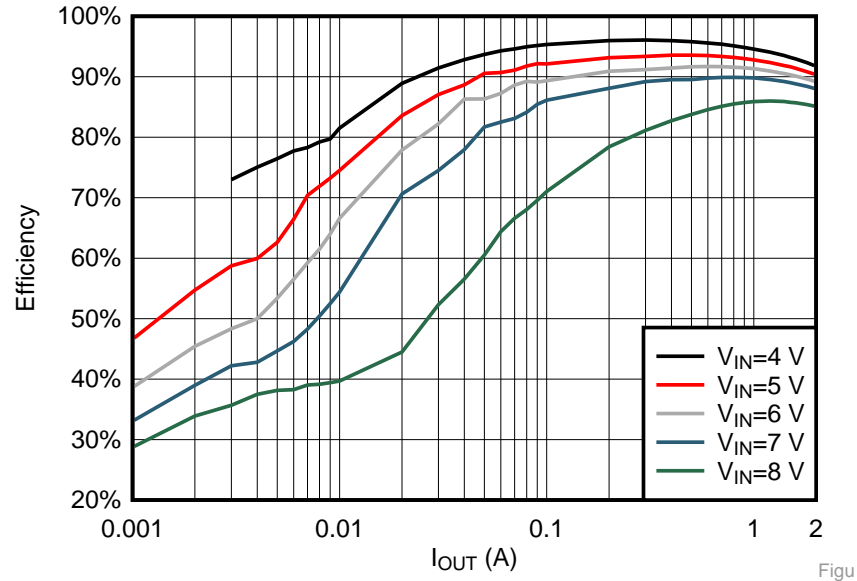
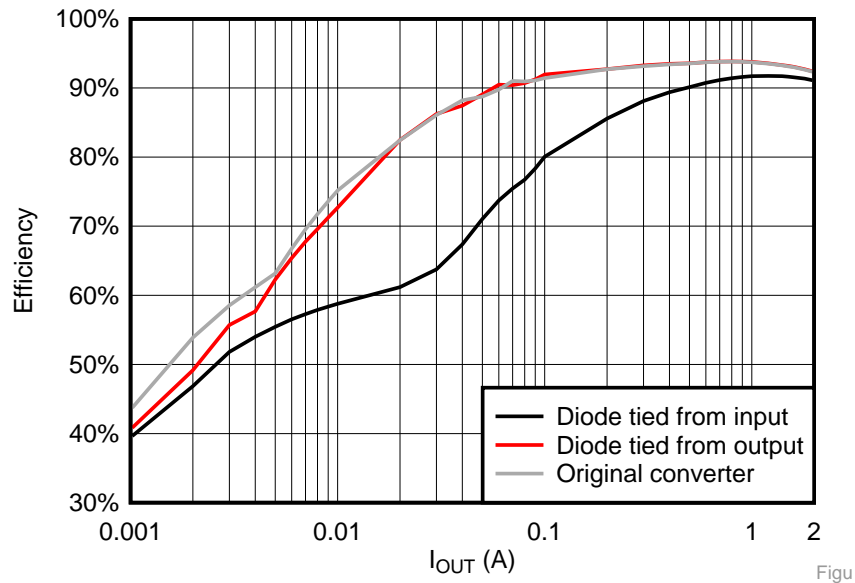

Figure 21. Efficiency of Solution (1) with 3.3 V Output under Different Input Voltage
Figure 23. Efficiency Comparison with 8 V Input and 5 V Output
Figure 21 through Figure 23 show the efficiency of solution (1) and (2) with 3.3 V / 5 V output under different  $V_{IN}$ . The efficiency of solution (1) is lower than the efficiency of solution (2) and the original converter. Solution (2) has a closer efficiency performance to the original converter. The lower the input voltage, the higher the efficiency.